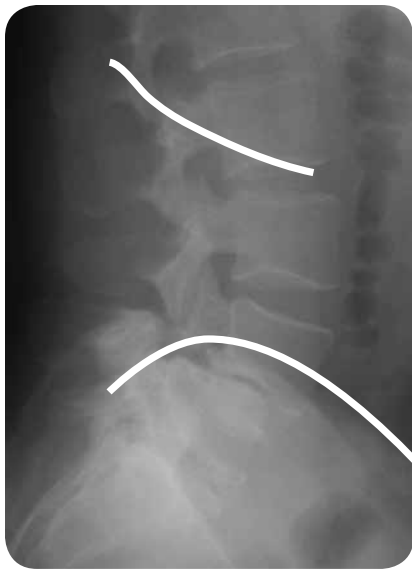

Figure 1
- » Location of the iliac crest and lower ribs in relation to disc space of interest (**Figure 1**)